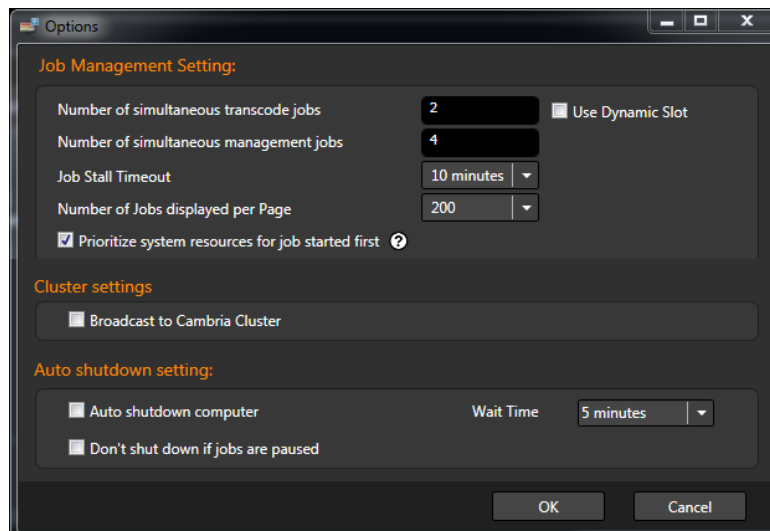

Figure 3. The Options dialog on the encoding machine.
3. In the Options dialog, deselect the Broadcast to Cambria Cluster checkbox in the Cluster settings area (Figure 3). Once you do this, the machine will show up as offline with a red indicator in the Cluster Manager on the Cluster Manager.